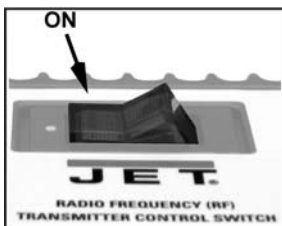

Figure 13A
35. On the main unit place the switch to the *ON* position (Figure 13A). The red LED on the main unit should light up.